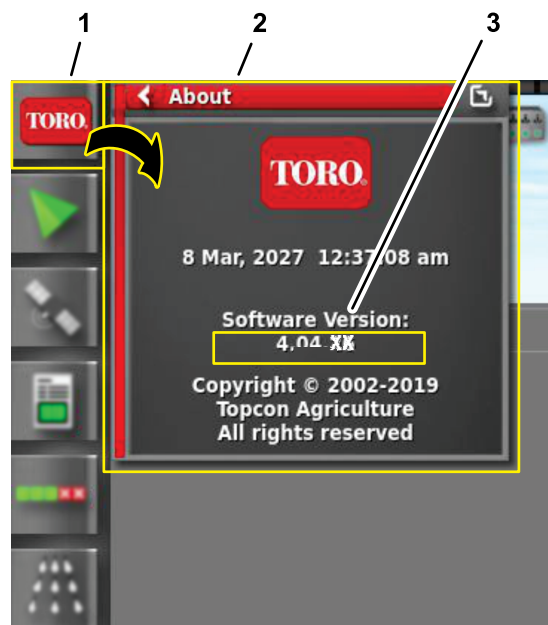

Figure 275
2. Press the ABOUT (Toro) icon at the upper left corner of the control console (Figure 275).